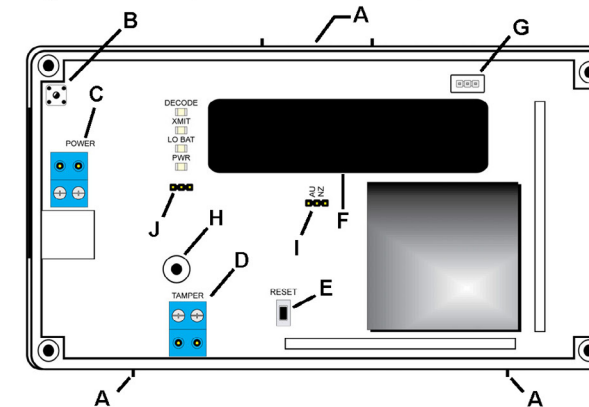

Figure 3 High power repeater internal components
- Use a small screwdriver to press the housing release tab on the top or bottom of the high power repeater (Figure 3); separate the housing.
- Connect power cabling (Figure 3).